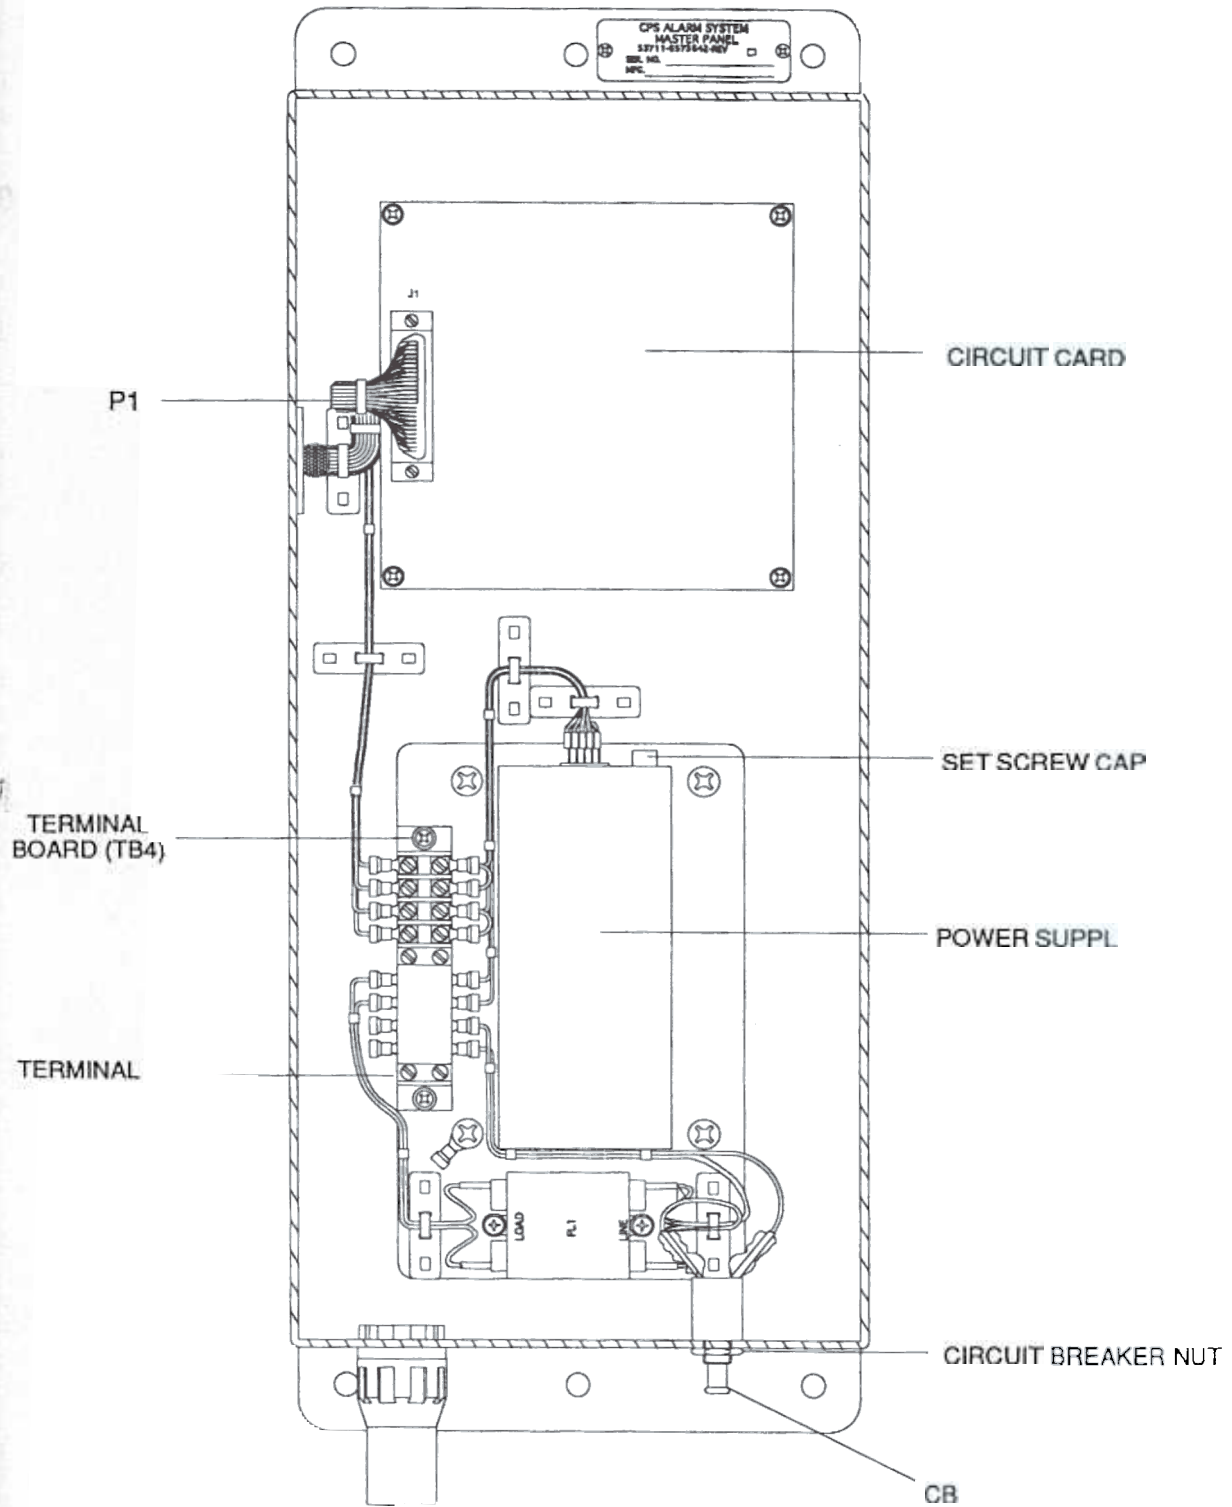

Figure 6-4 Master panel, Door Removed
- (5) At the master panel, verify that all circuit card switches are in the NORM position (figures 6-4 and 6-5). Verify that the person at the zone sensor box has performed step (4).
- (6) At master panel, observe the master zone meter of the zone undergoing alignment. The desired zero pressure range is a meter reading equal to or greater than 0.0 but less than 0.1 inches pressure. If the zone meter does not indicate 0.0 pressure, adjust the meter to it's lowest reading (but no lower than 0.0) by turning the adjustment screw on it's face plate slowly either clockwise or counter-clockwise. If the meter cannot be mechanically adjusted to less than 0.1 inch pressure, adjust potentiometer